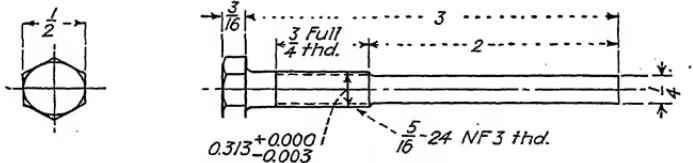

FIG. 13.—Special bolt to hold cam ring for timing valves.
- a. Lock the cam ring by inserting a special bolt, as in Fig. 13, in the  $\frac{5}{16}$ -24 tapped boss to the right of the crankshaft gear in the induction housing and screw it against the cam ring. This bolt should be tightened only moderately against the cam ring; excessive tightening may cause damage. This bolt may be purchased from the Warner Aircraft Corp.